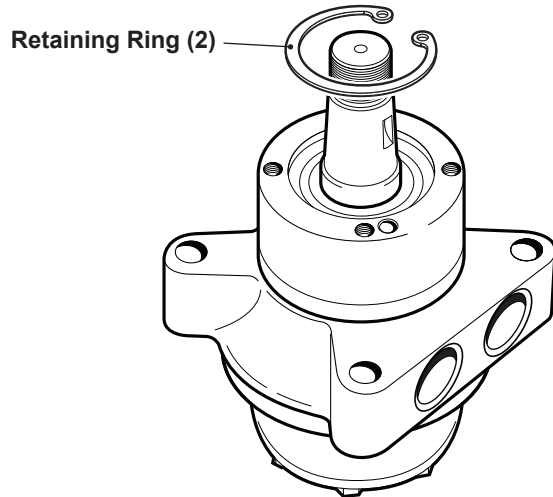

Figure 5, Retaining Ring
4. Remove the retaining ring (2). See *figure 5*.